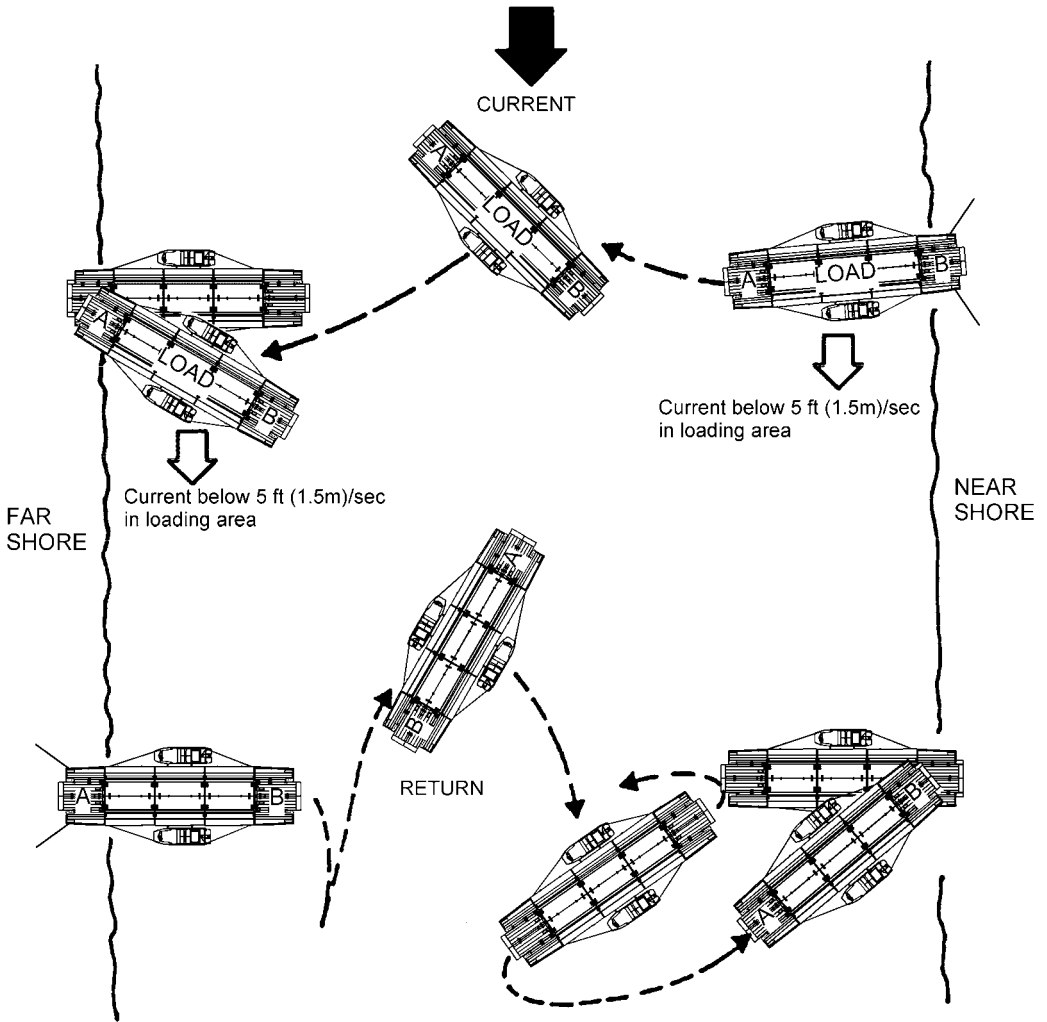

Figure 3. Longitudinal Rafting Procedures.
- u. Cast off taglines and maneuver raft assembly to far shore per WP 0042 00, figure 3, Longitudinal Rafting Procedures.
7. For conventional rafting, two BEBs are used. Refer to figure 3, Longitudinal Rafting Procedures, to determine where and how boats are attached to longitudinal rafts.